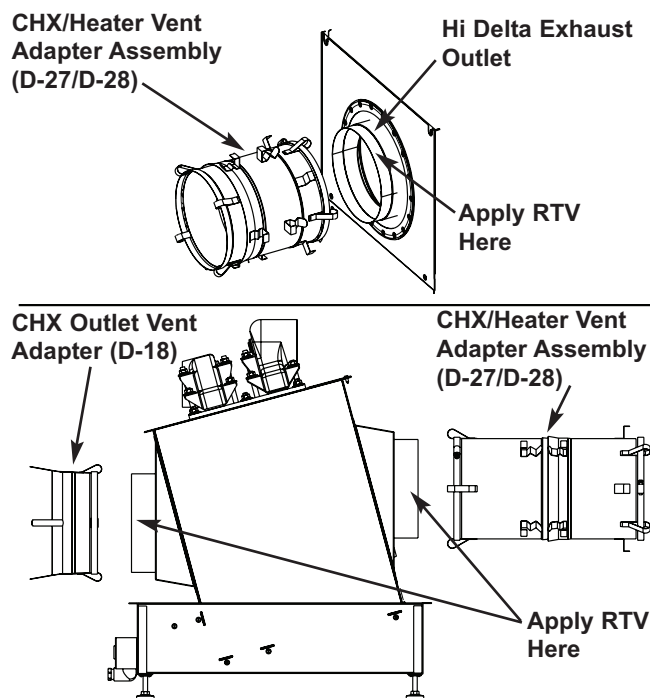
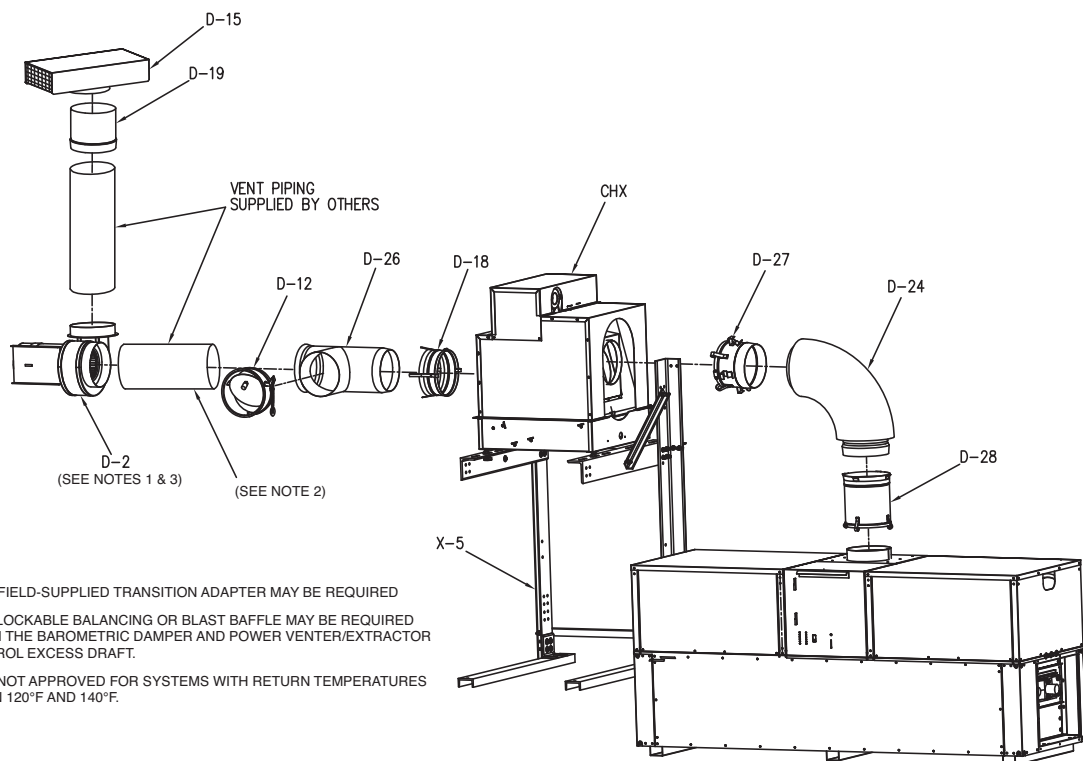

Fig. 2: Proper Orientation of Vent Adapters for Installation, Hi Delta Exhaust Outlet (Top) and CHX Inlet/Outlet (Bottom)
Fig. 3: Hi Delta with Top-Mounted CHX and Power Venter
2. Apply a bead of high temp RTV within approximately 1/4 inch of the edge of the CHX Exhaust Inlet. Install the CHX/Heater Vent Adapter Assembly, created in step 1, onto the CHX Exhaust Inlet (vent adapter must overlap onto exhaust inlet/outlet by at least 1/2 in.) and secure by tightening the hose clamp provided. Refer to the bottom of Fig. 2.
3. Position the CHX so that the CHX/Heater Vent Adapter Assembly aligns with the Hi Delta Exhaust Outlet and install as described in step 2. See top of Fig. 2.
4. Install the CHX Outlet Vent Adapter (see Fig. 2) and then install venting and water piping according to your installation. See Fig. 3 through 10 for more information about various CHX configurations. Refer to the following sections for specific information about venting and water piping.